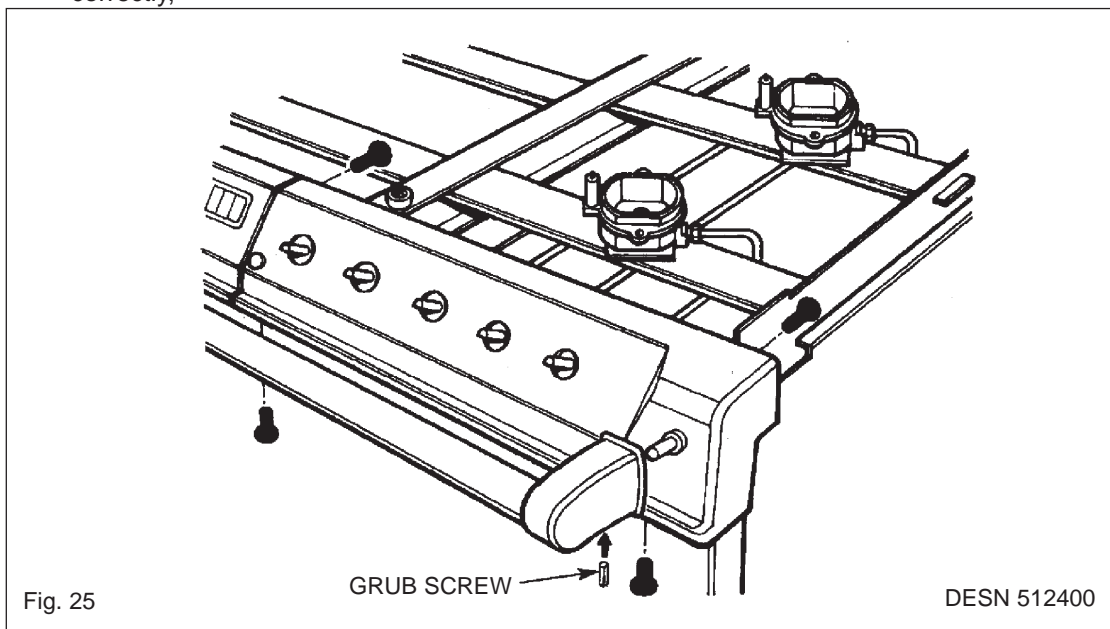

Fig. 25
4. Remove control panel fixing screws (4 per casting) (See Fig. 25). When removing the screws support the casting.
D. TO REMOVE HANDRAIL (SEE FIG. 25)
1. Loosen 2 grub screws, one at each end of hand rail (see fig. 25) using 3/32" socket key.